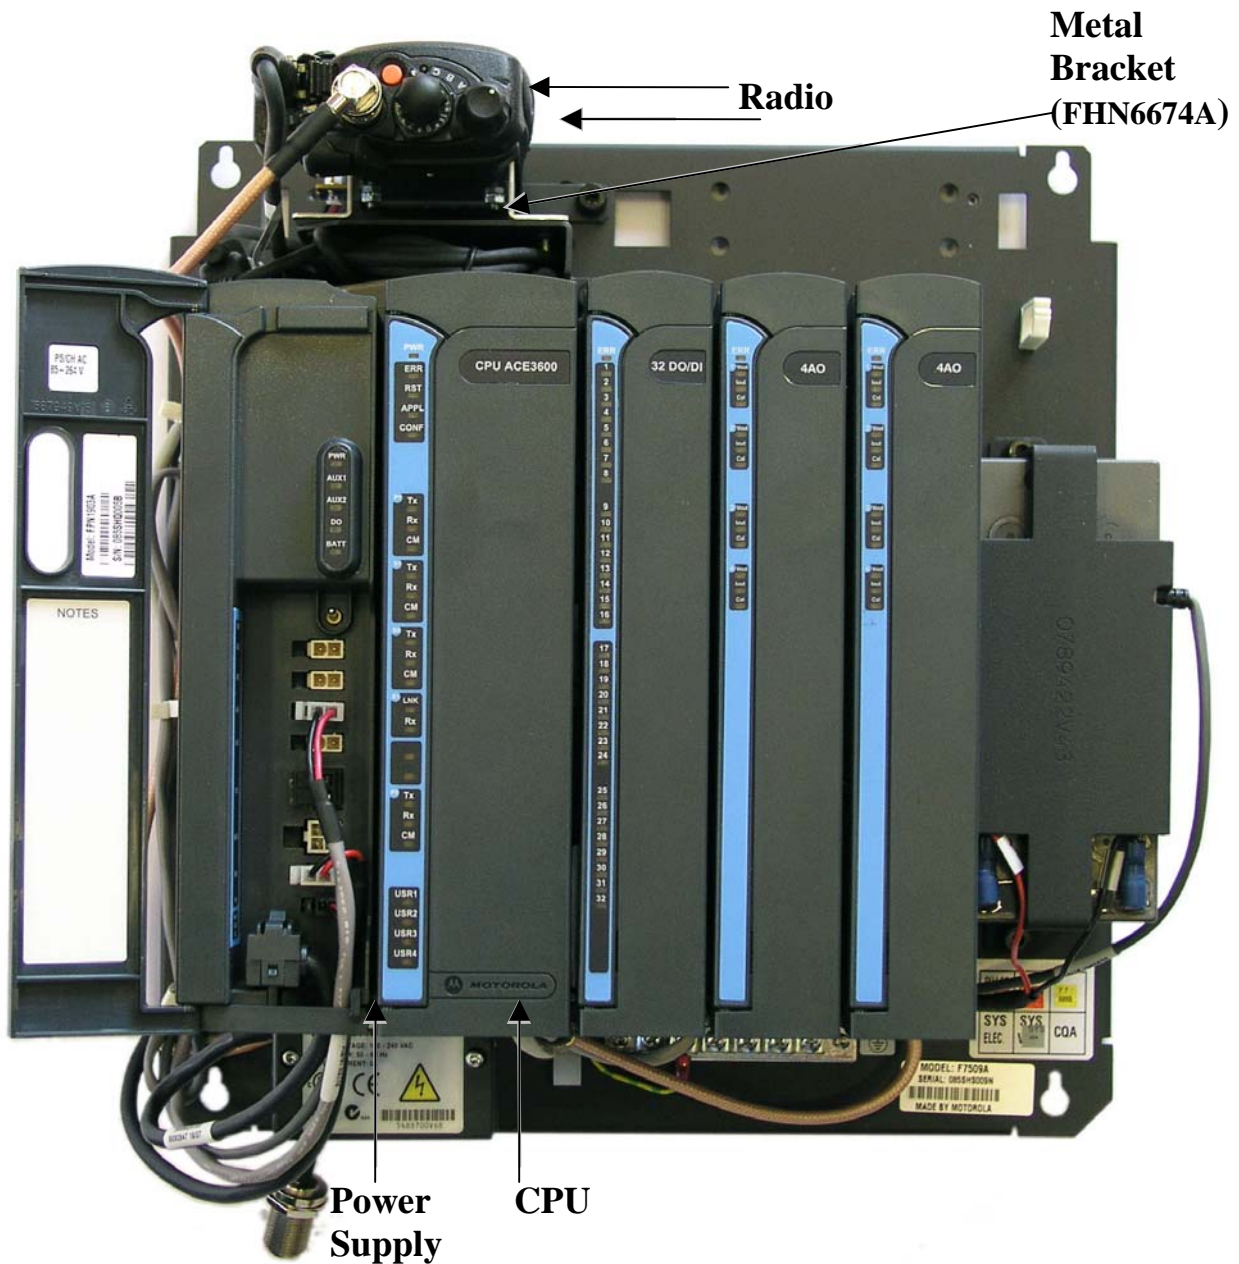
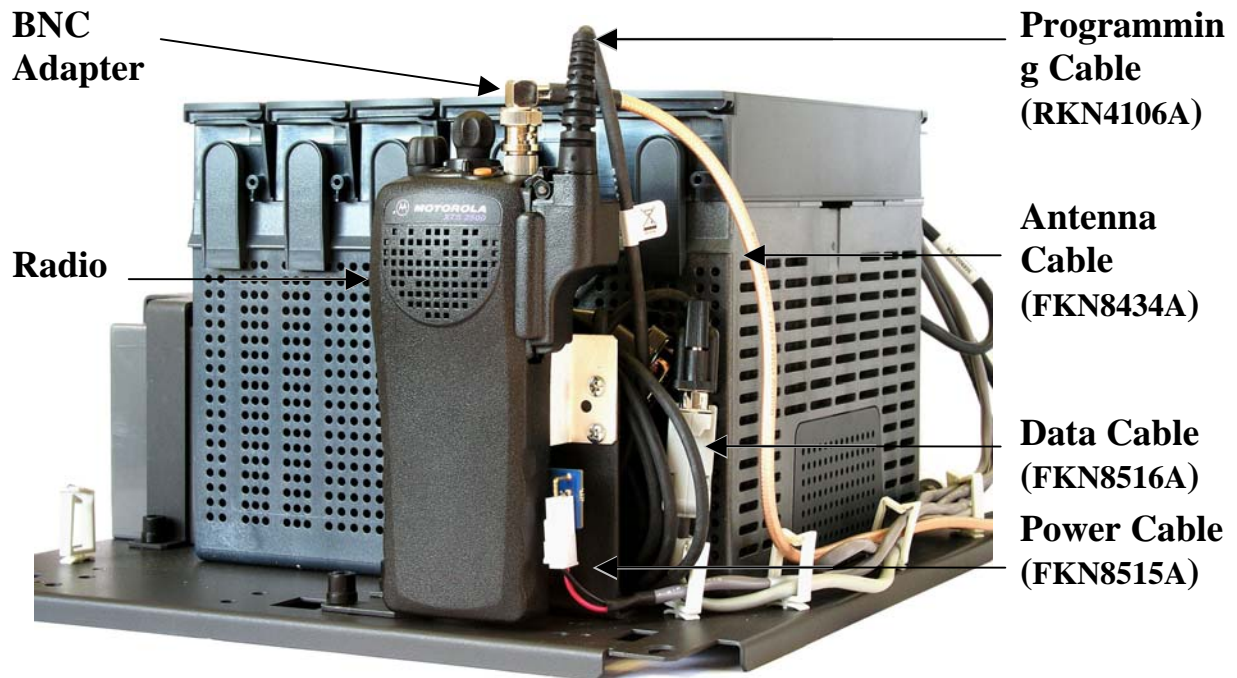

Figure 13-9 XTS2500 Radio Installed on ACE3600 Chassis
Figure 13-10 XTS2500 Radio Installed on ACE3600 Chassis - Cable Connections
2. Connect the programming cable (RKN4106A) provided with the radio to the Accessory connector on the radio. (See Figure 13-10.) Connect the other end of the programming cable to the 9-pin D-type (Radio) connector on the communication cable (FKN8516A) and tighten the screws attached to the programming cable. Do not use the 25-pin connector; it is for programming only.
4. Connect the 7.5V DC power cable (FKN8515A) to the AUX2A or AUX2B auxiliary power output connector on the RTU power supply. Connect the other end of the power cable to the DC adapter on the radio bracket (FHN6674A). (See Figure 13-9 and Figure 13-10.)
5. Add the BNC adapter (#5871143Y04) to the XTS2500 radio antenna connector. (See Figure 13-9.)
6. Attach the BNC connector of the antenna cable (FKN8434A) to the radio's BNC adapter. Route the antenna cable through the small wire clamps along the left side edge of the RTU chassis, according to the placement of the radio on the chassis. Attach the N-type connector at the other end to the opening on the bottom of the RTU housing using the supplied locking washer and nut. (See Figure 13-9.)
8. Mount the metal bracket on the RTU chassis above the I/O modules, using the three built-in screws, with the bottom of the radio towards the chassis. (See Figure 13-9.)
5. Detach the metal bracket (#0789422V40 from FHN6674A) by unscrewing the four radio screws (#0310906A67), two on each side. (See Figure 13-9.)